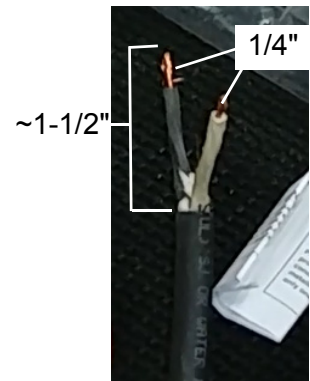

FIGURE 1
2. Strip approximately 1/4" of the insulation from each wire. (See Figure 1.)